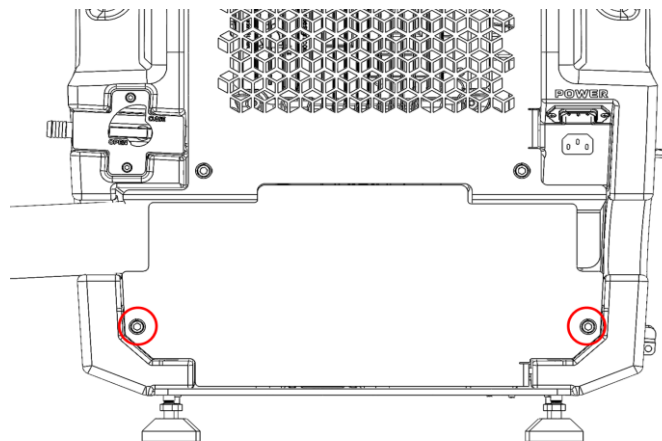

FIGURE 2-8
1. Use a 5mm Allen key to remove the M6 screws and washers shown in Fig. 2-8 and remove the back plate.